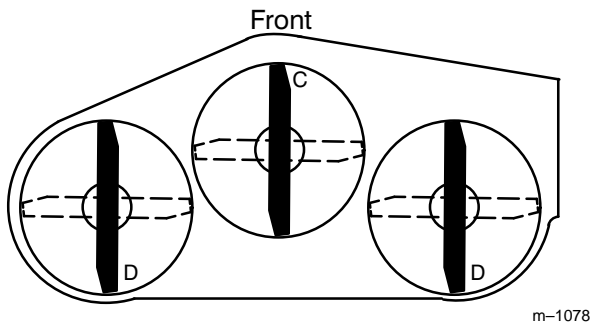
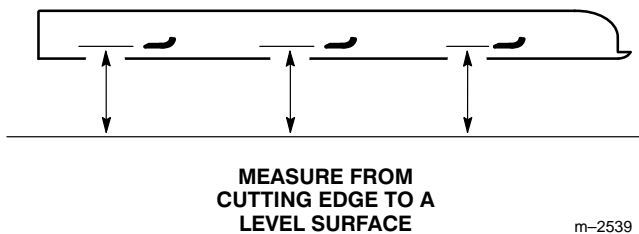

Figure 19
Figure 20
2. Position the blades front-to-rear (Fig. 19). Measure at "C" and "D" locations (Fig. 19) from a level surface to the cutting edge of the blades (Fig. 20).